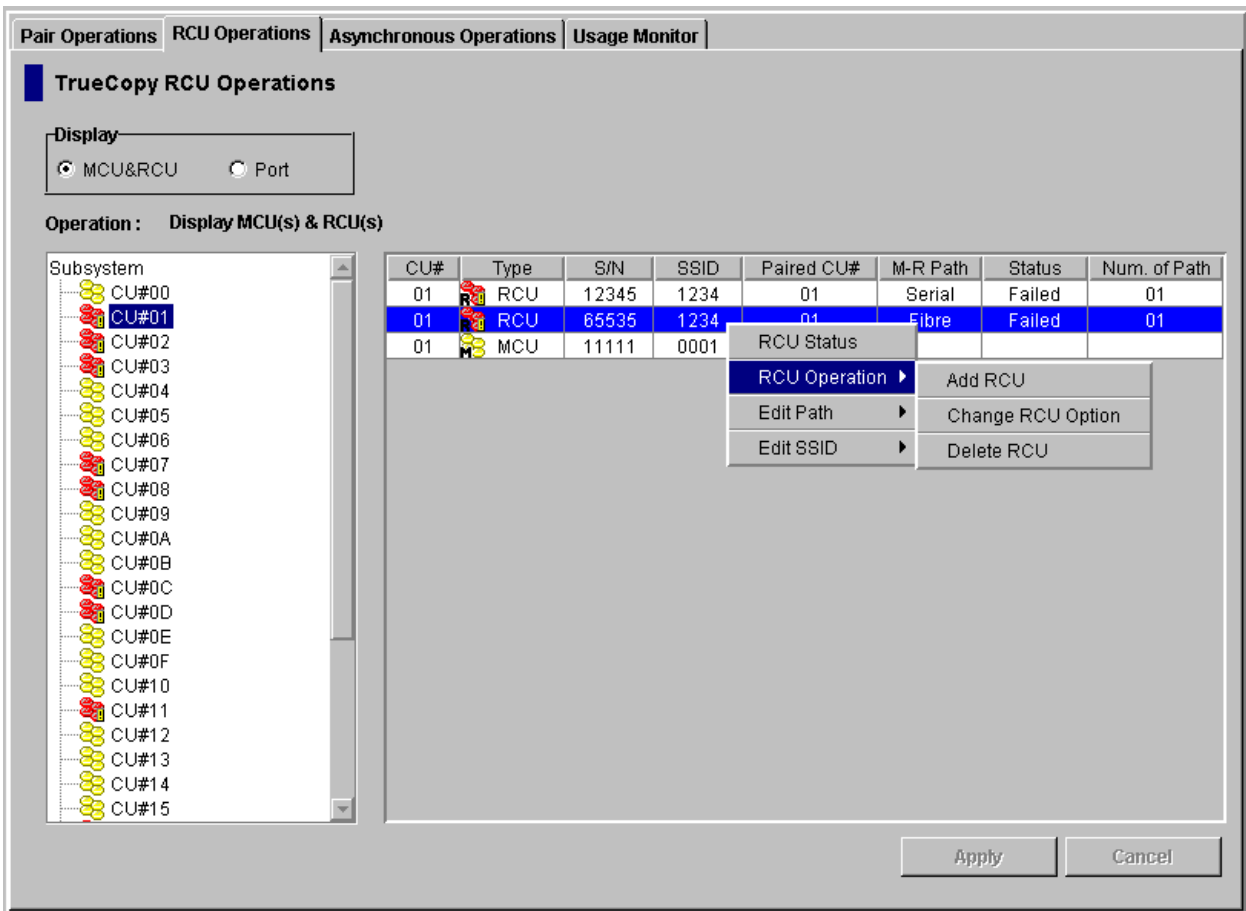
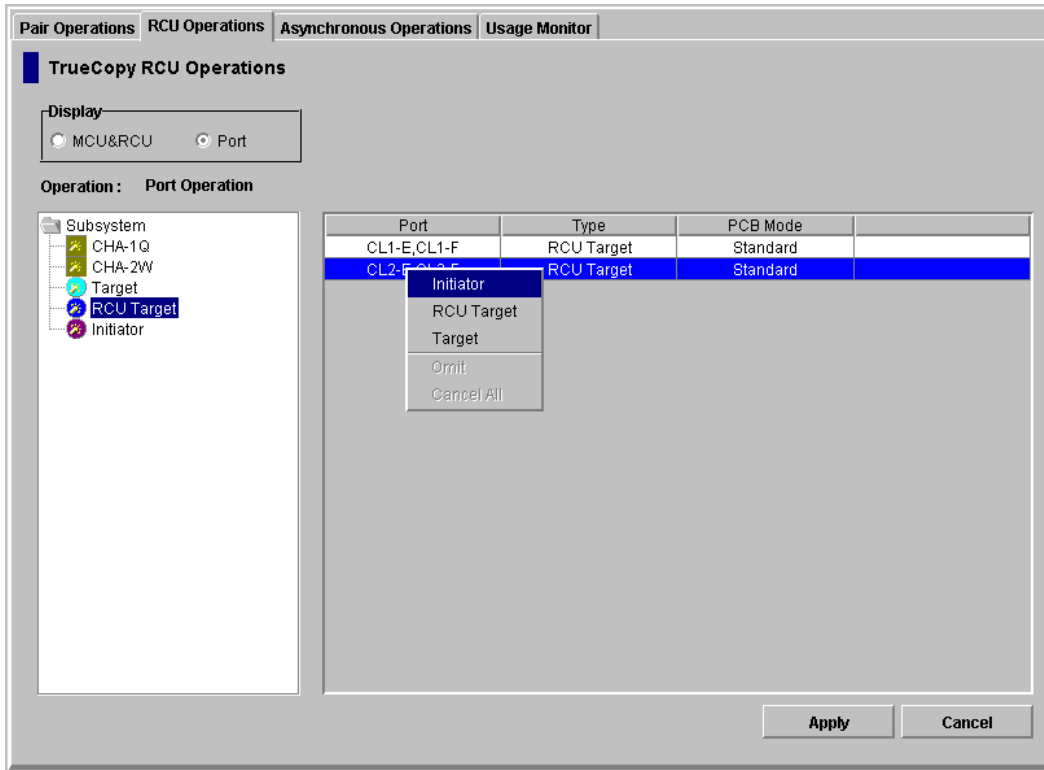

Figure 4.8 Pop-up Menu for MCU & RCU Operations
Figure 4.9 Pop-up Menu for Port Operations
4. Right-click on the selected item(s) to display the pop-up menu (see Figure 4.8 and Figure 4.9).